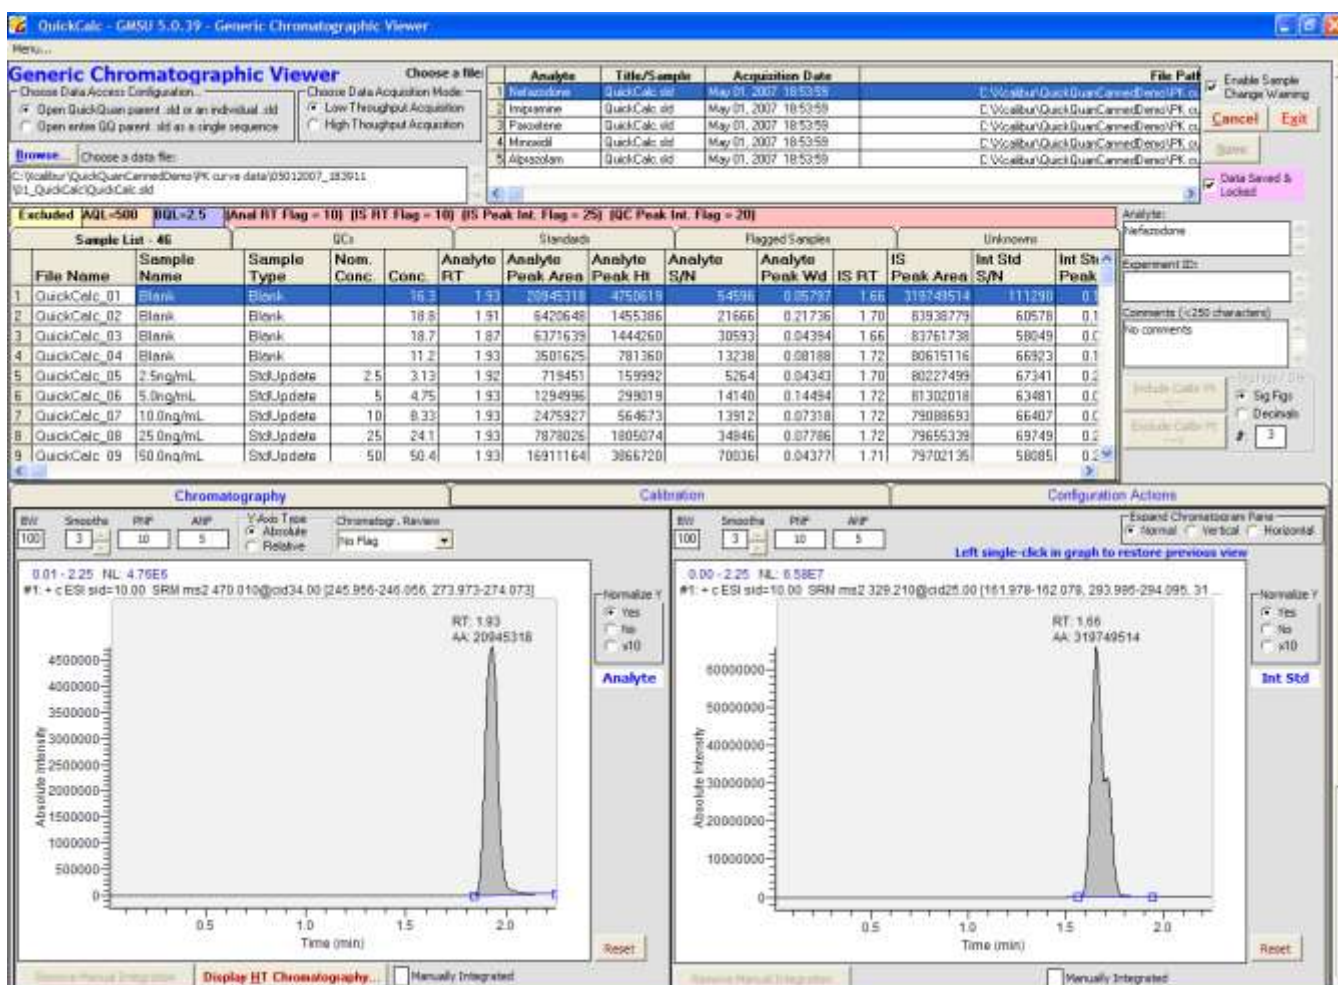

Figure 55 QuickQuan data – Open...a QuickQuan parent .sld
- By selecting the Choose Data Access Configuration option 'Open QuickQuan parent .sld or an individual .sld' to load data, GMSU/QC will parse and list separately the different analytes acquired during the data acquisition event (see Figure 55)